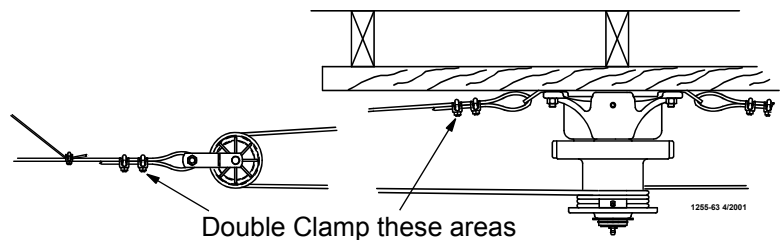

Figure 7. Double back arrangement for feed lines over 350' [107 m]
3. Extend the 3/16" [5 mm] Main Winch Cable the full length of the feeder line. Attach the cable temporarily to the ceiling with nails, staples, or some type of fasteners. **Figure 7.** shows a double back arrangement.